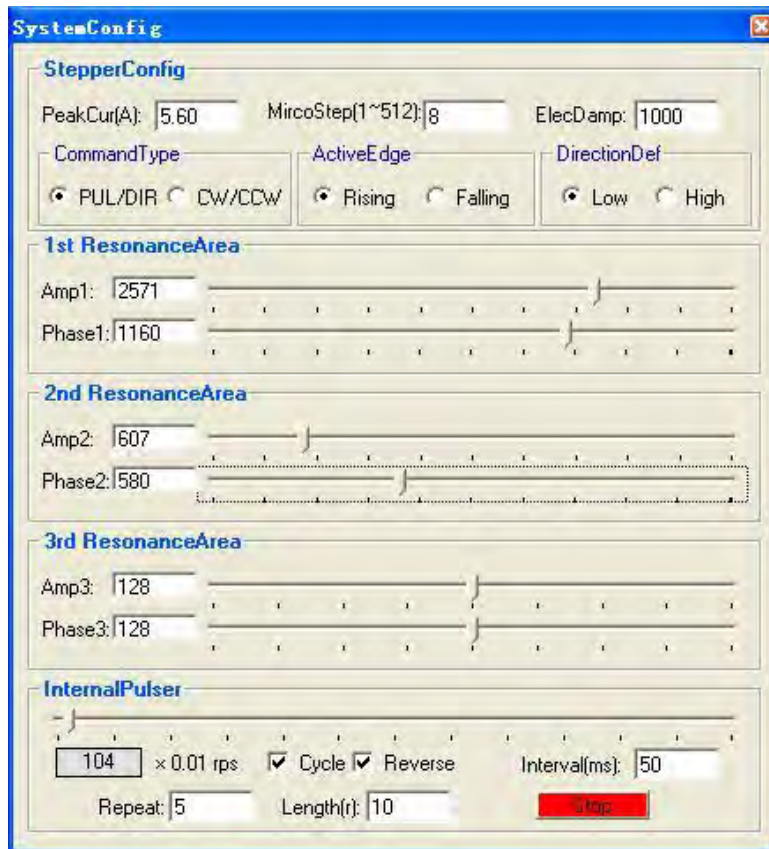

Figure 26: Anti-resonance tuning
Step 1: Start the motion test by clicking **Start/Stop** button. Find an resonance speed by slightly moving the slider bar of internal pulse generator back and forth. See Figure 26.